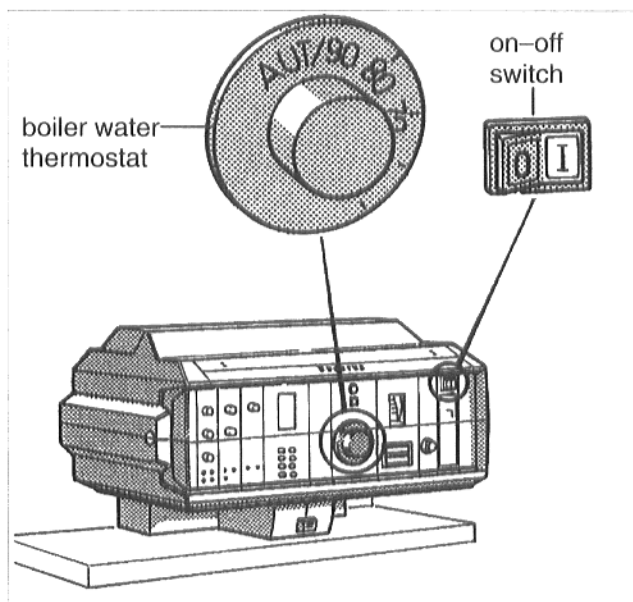

Fig. 24
- Put the emergency switch and on-off switches (Fig. 24) of the Ecomatic control panel into position I (ON).
- Set the boiler water thermostat (Fig. 24) to 'AUT'.